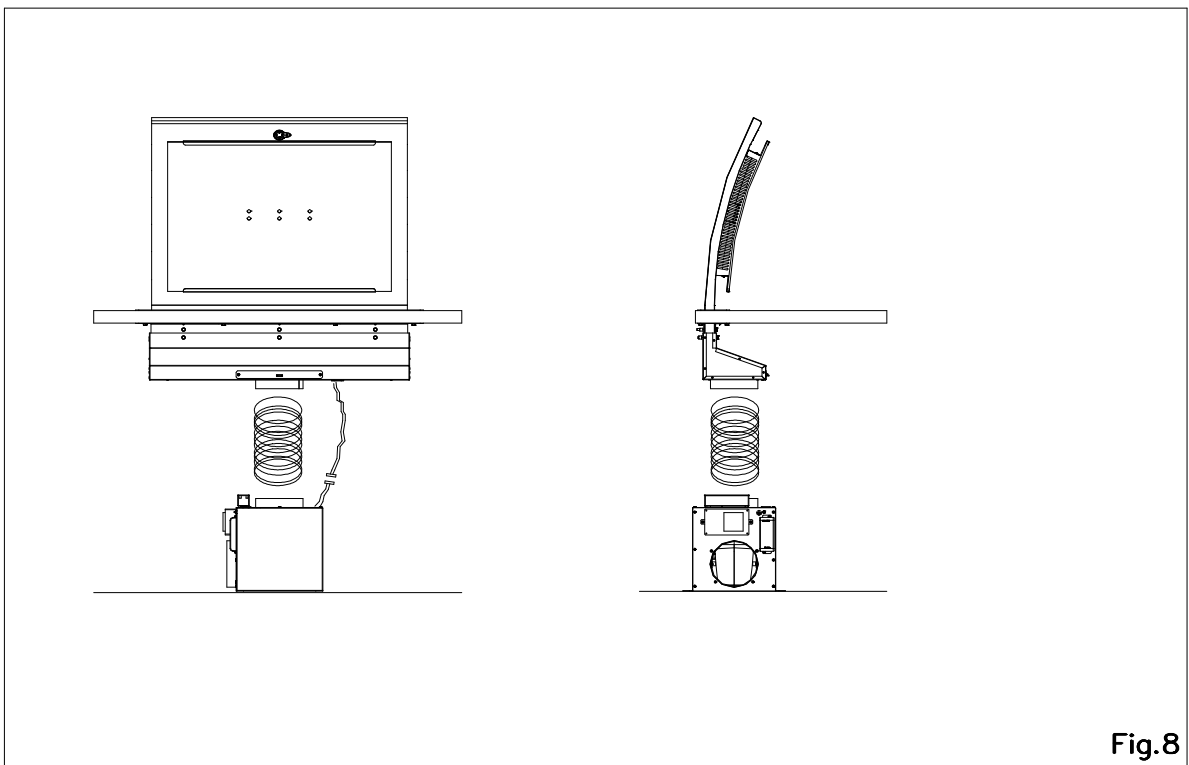

Fig.8
- 7) Place the motor box inside the cabinet and secure it (Fig. 8). Connect the cables to the special connections. Connect a hose Ø150mm at the output of the air conveyor with the input of the motor box and fix it with a hose clamp.